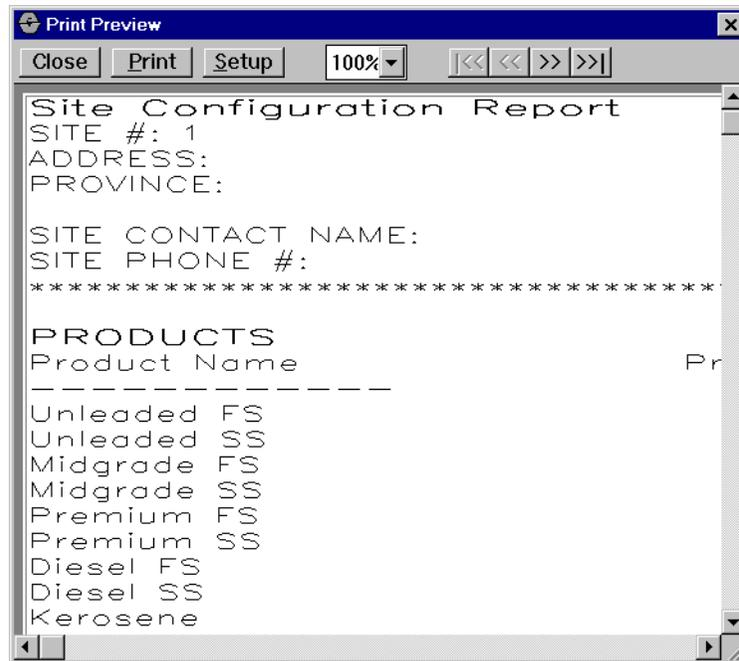

Figure 14: Print Preview Window
1. Select **Site**, **Site Configuration Report** to open the Print Preview window, *Figure 14*.